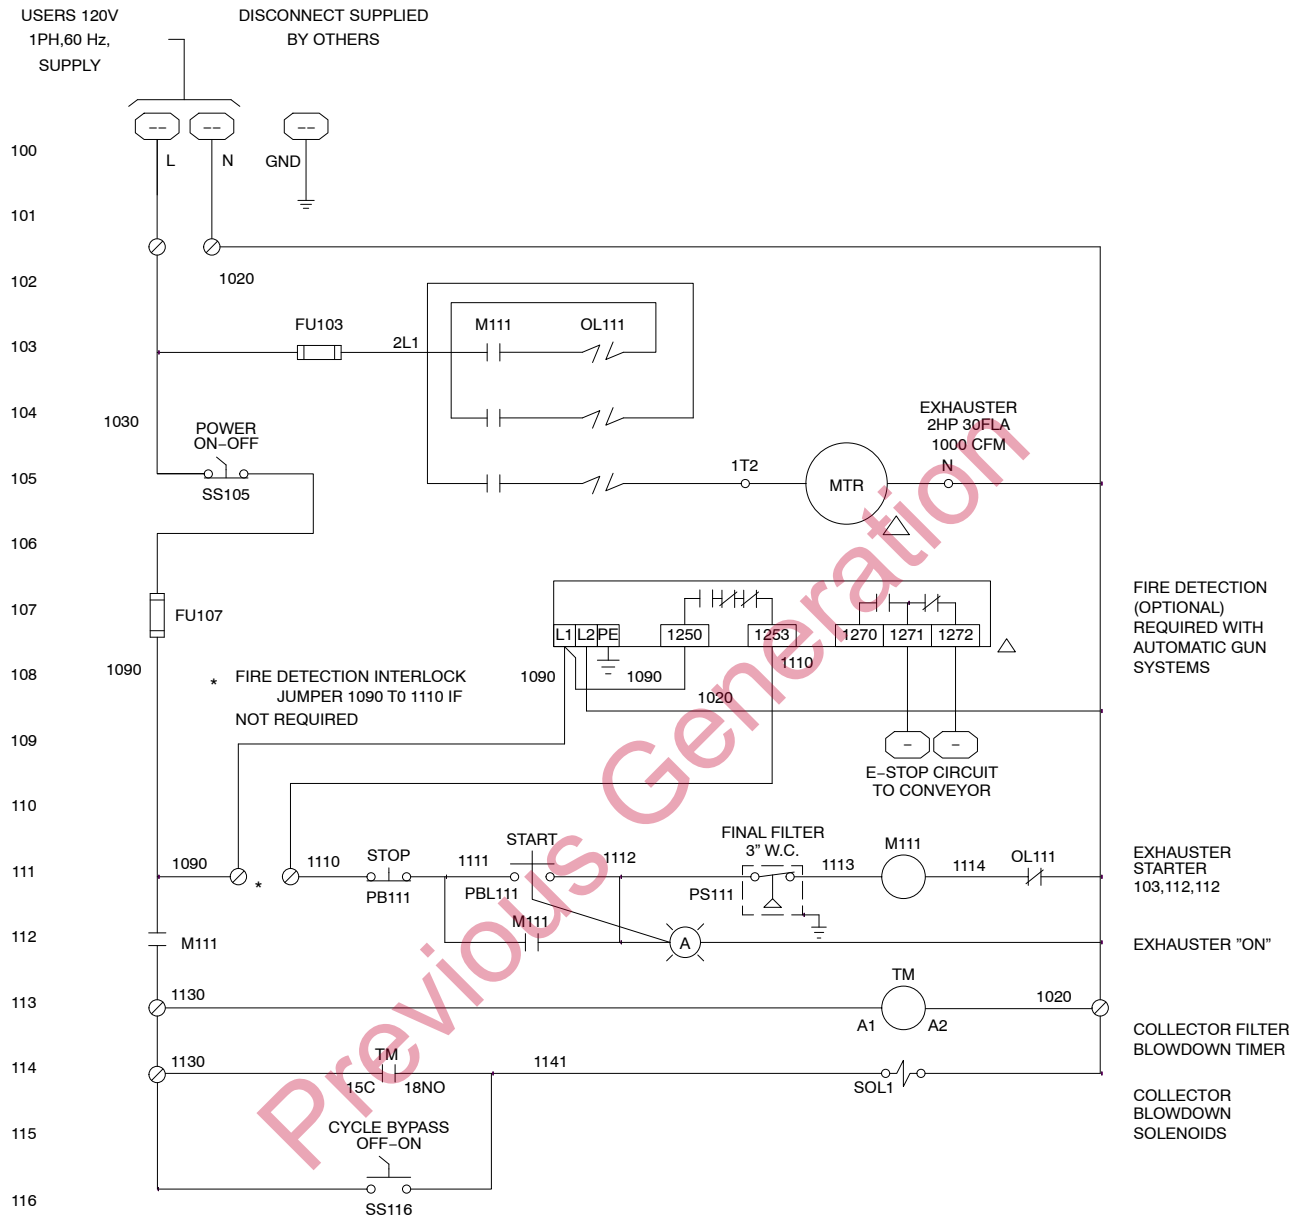

Figure 3-4 EC1001 Single-Phase Electrical Panel Schematic
- **Single-Phase Systems:** See Figure 3-4 or 3-5.
3. Make the connections as shown in Figures 3-4, 3-5, or 3-6.